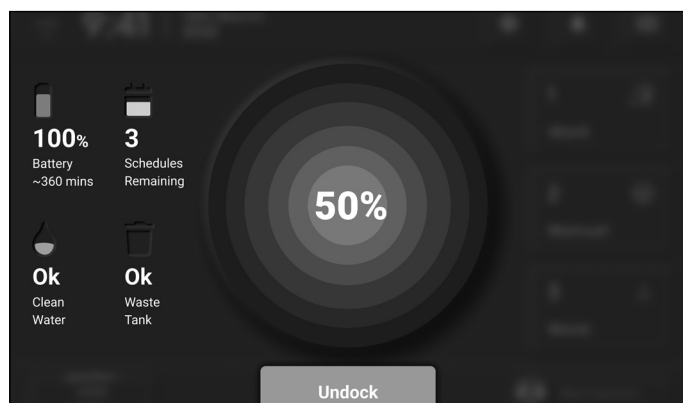

Figure 65
- When the machine is able to start charging, the touchscreen will reflect the battery charge status (**Fig. 65**).
- To undock the machine from the station, select the blue 'Undock' button (**Fig. 65**).